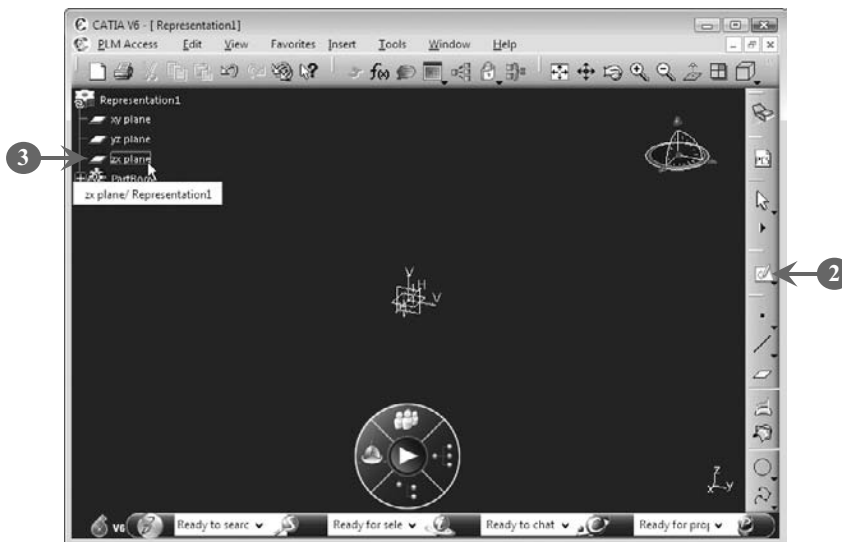

FIGURE 5.52
2. Click the **Sketch** button on the **Sketcher** toolbar to draw the sketch of the reference surface (**Figure 5.52**).
3. Select the **zx-plane** option in the specification tree to invoke the Sketcher workbench with the **zx-plane** as the sketching plane, as shown in **Figure 5.52**: